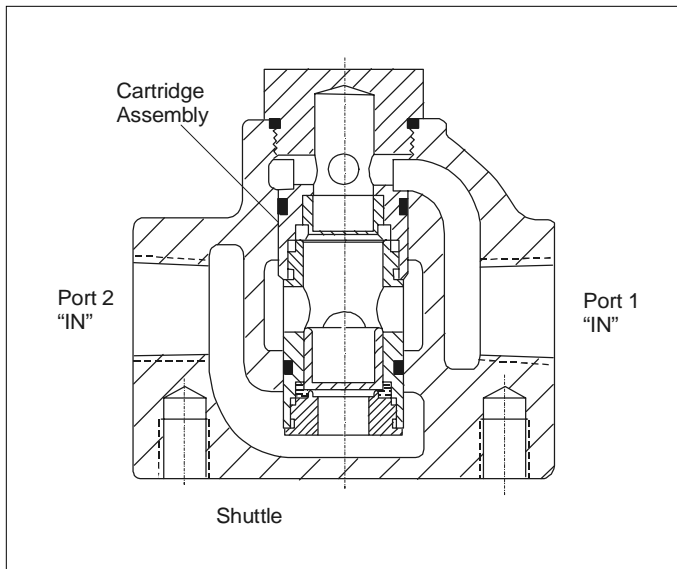

Figure 2 - Assembly View
2.0 OPERATION (Figure 2)
NOTE: In Figure 2 the high pressure inlet port is inlet port 1.